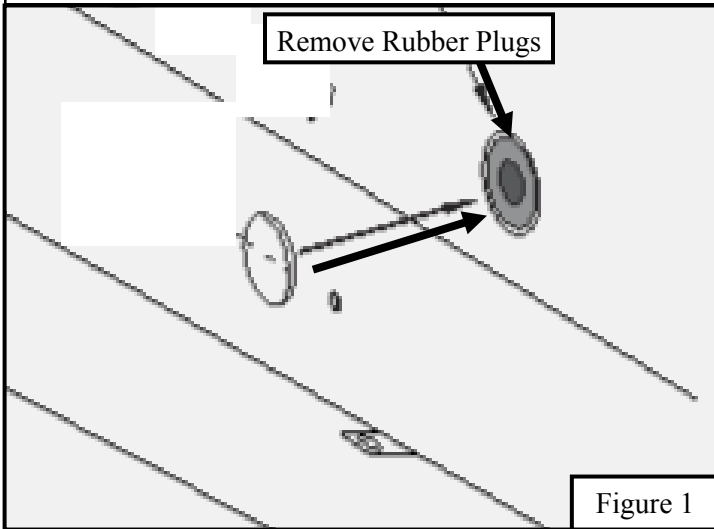

Figure 1
1. Starting on the driver side, remove the rubber plugs located on the rocker panel at each mounting location. See **Fig. 1**.